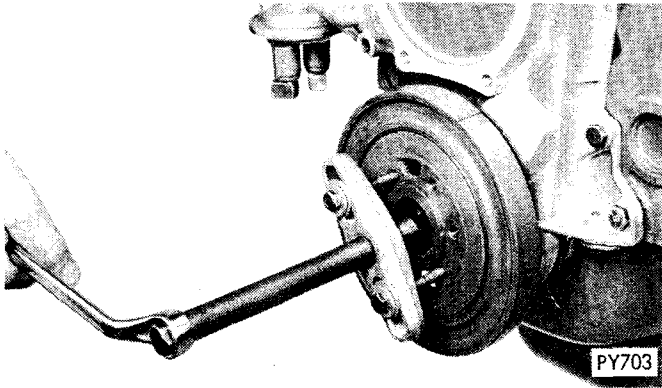

Fig. 20—Removing Vibration Damper Assembly 318 Cubic Inch Shown (Typical)
- (1) Drain cooling system and remove radiator, fan belt and water pump assembly.
- (2) Remove pulley from vibration damper and bolt and washer securing vibration damper on crankshaft.
- (3) Install Tool C-3688 and pull vibration damper from end of crankshaft (Fig. 20).
- (4) Remove fuel lines and fuel pump.
- (5) Loosen oil pan bolts and remove the front bolt at each side.
- (6) Remove chain case cover and gasket using extreme caution to avoid damaging oil pan gasket.